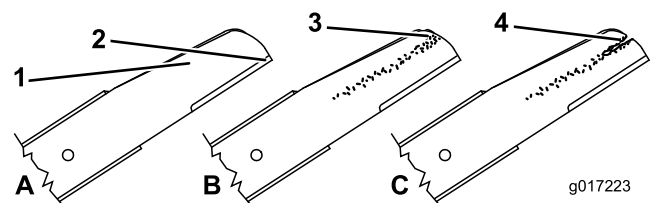

Figure 42
1. Inspect the cutting edges (Figure 42). If the edges are not sharp or have nicks, remove the blades and have them sharpened or replace them.
2. Inspect the blades themselves, especially the curved area (Figure 42). If you notice any damage, wear, or a slot forming in this area (Figure 42), immediately replace it with a new blade.